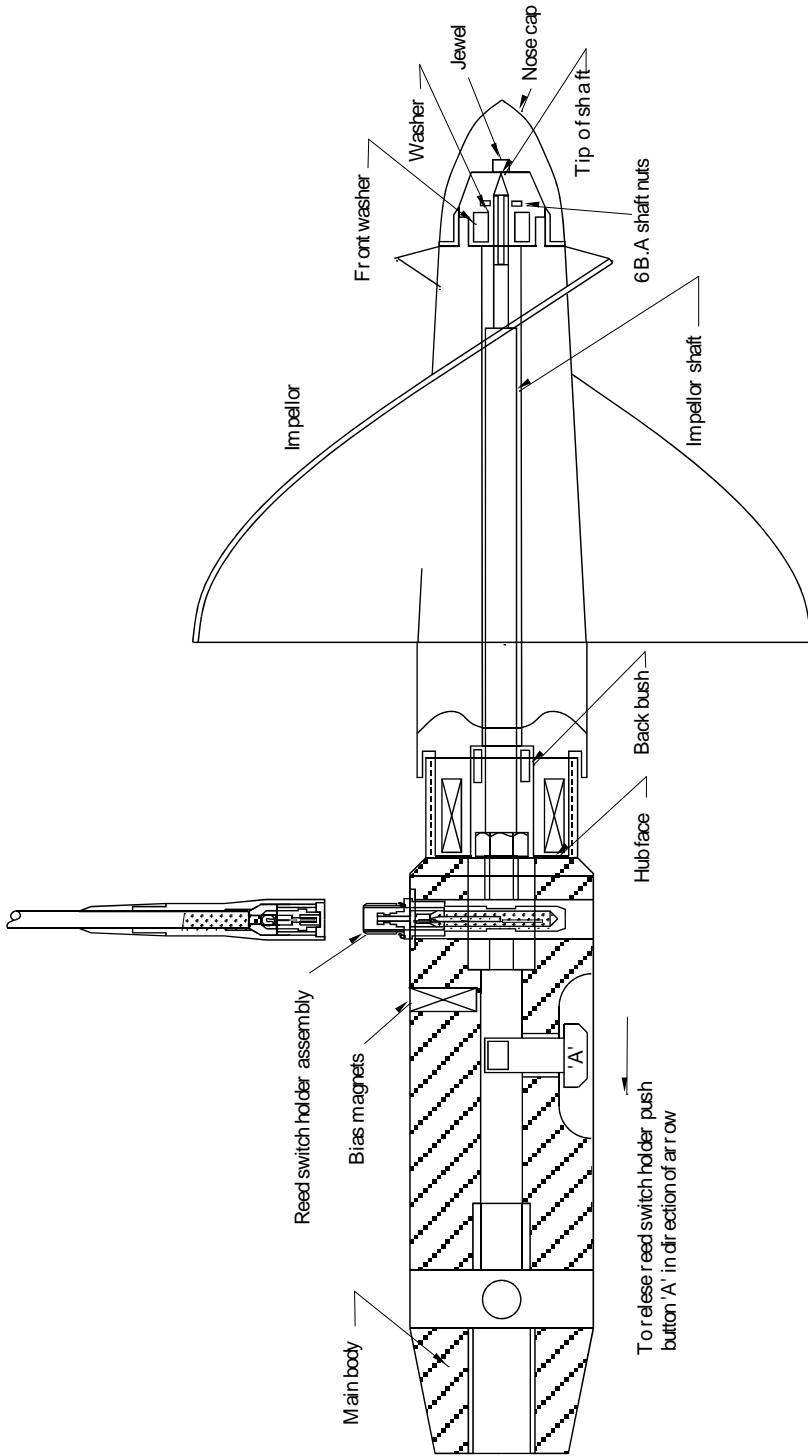

Figure 1 – Sectional Diagram BFM001
7.1 FIGURE 1 - SECTIONAL DIAGRAM BFM001